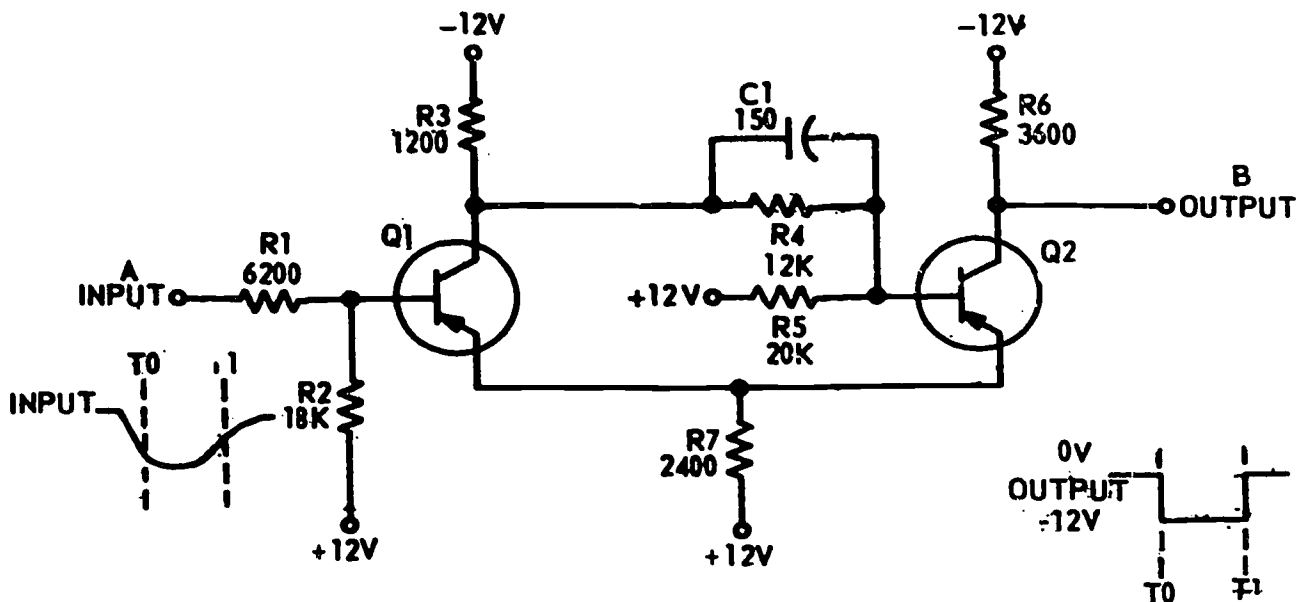

Figure 1-14. Schmitt trigger diagram (objective 003, exercise 3).
3. How long will transistor Q1 in figure 1-14 continue to conduct?